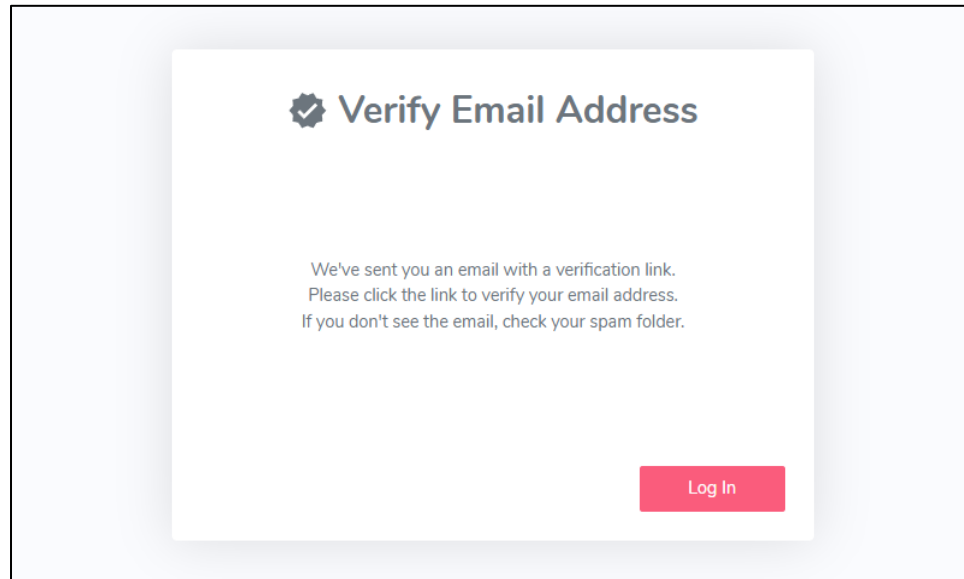

Figure 11
7. A verification email is then sent to the registered email address (Figure 11). Once it is verified, tap 'Log In' to return to the login page and complete **step 5**.